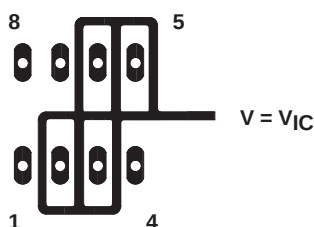

**Figure 4. Isolation Metal Around Device Inputs
1. Isolate the device from other potential leakage sources. Use a grounded shield around and between the device inputs (see Figure 4). Leakages that would otherwise flow to the inputs are shunted away.